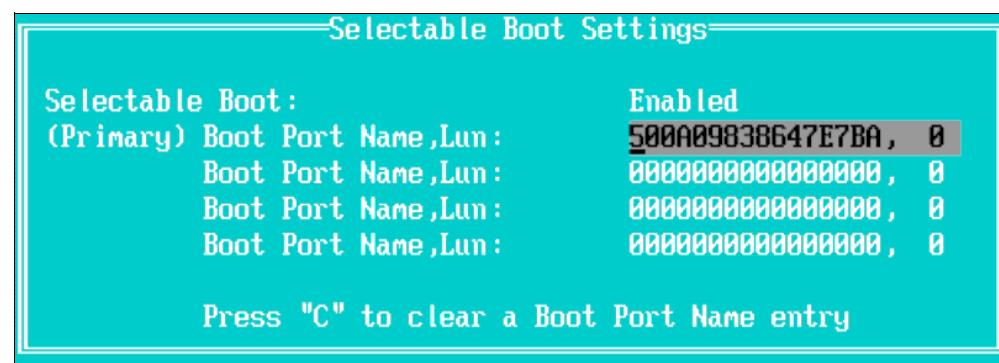

Figure 18-29 Selecting the (Primary) Boot Port Name
9. Select the entry in the (Primary) Boot Port Name, LUN field, as shown in Figure 18-29, and press Enter.